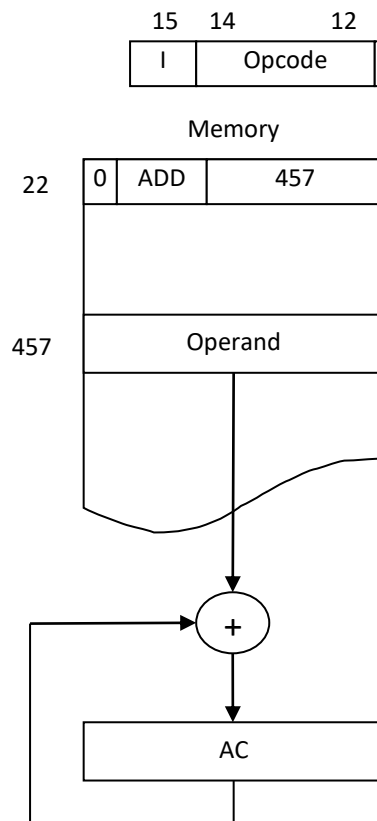

Figure 2.2: Direct Address
- A direct address instruction is shown in Figure 2.2. It is placed in address 22 in memory.